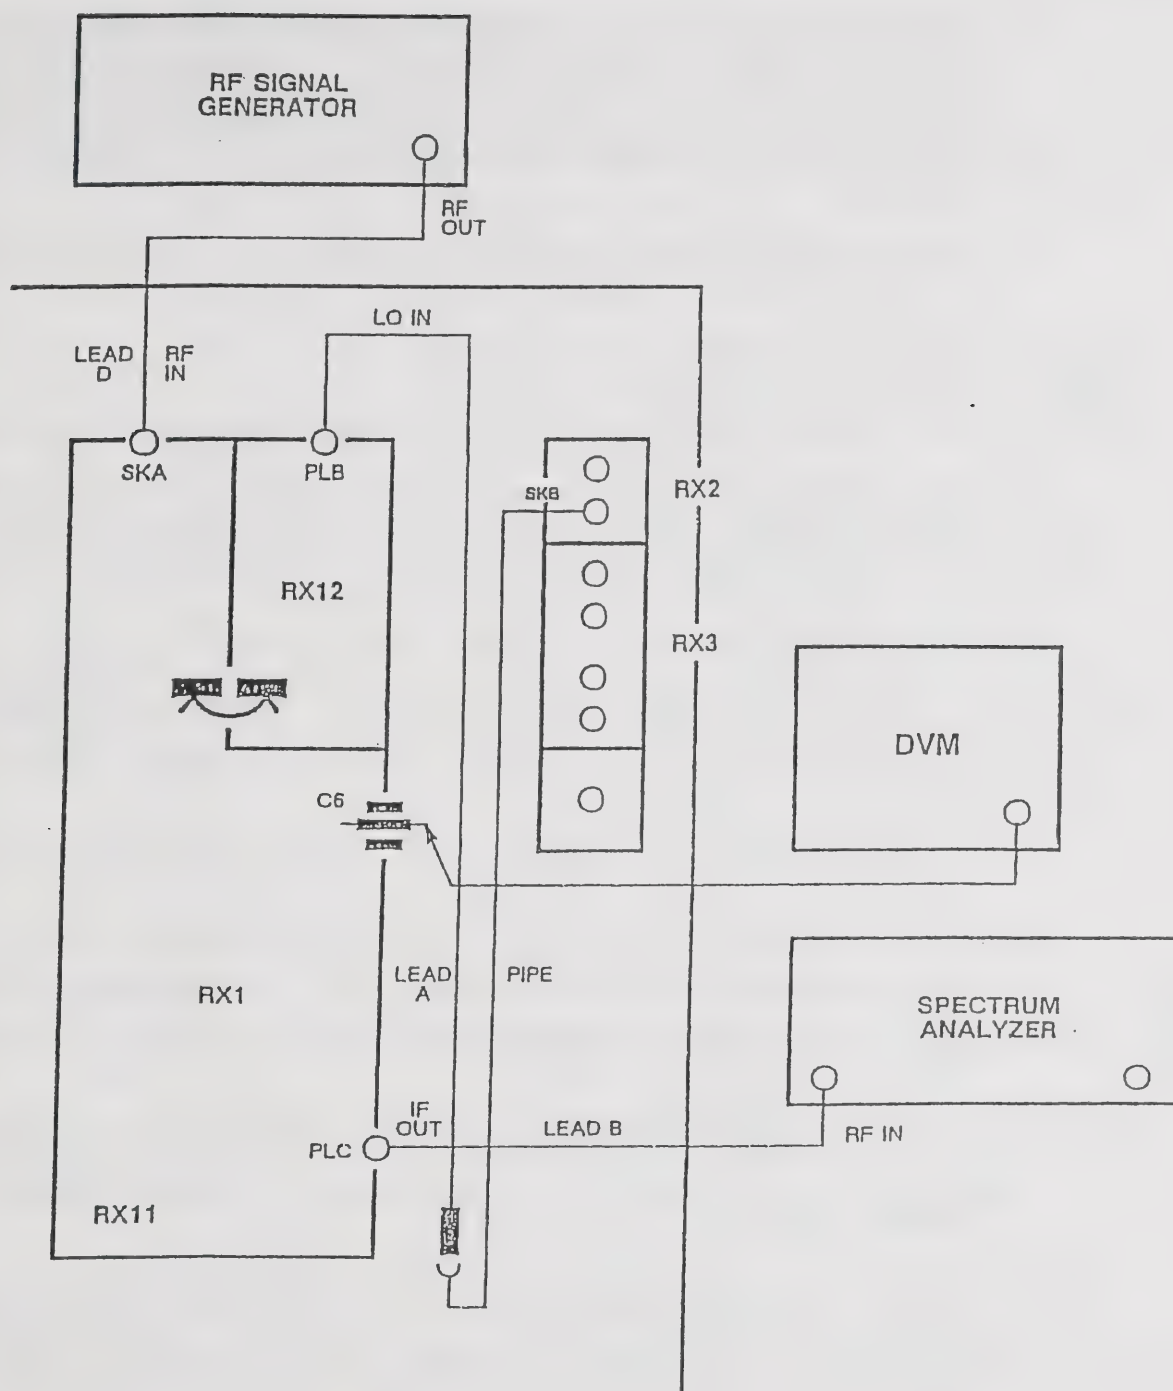

Fig. 3-20 Connections for AGC and 38 dB amplifiers
- (1) Using lead A, connect its SMC plug to the free end of the pipe to SKB on RX2 and connect its SMC socket to PLB on RX1. See Fig. 3-20.
- (2) Using lead B, connect its SMC socket to PLC on RX1 and connect its other end to the spectrum analyzer (RF input).
- (3) Using lead D, connect its SMA plug to SKA on RX1 and connect its other end to the RF signal generator (RF out).
- (4) Connect the DVM to C6 on RX1. C6 is connected to PLA pin 14 on RX11 (yellow wire). Earth the probe on the wall of the tray.